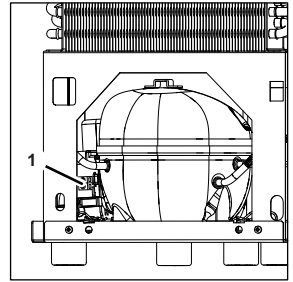

Figure 132
- Remove the fastening bolt (Figure 132/1) from the electrical assembly.